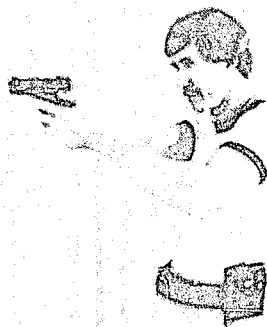

Figure 7-21
1. Loading the Auto-Pistol (See Figures 7-21 through 7-25)